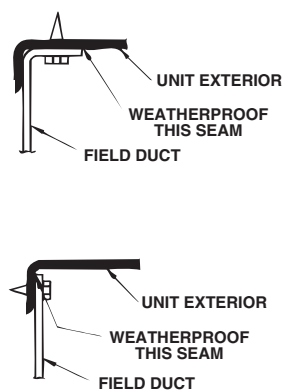

Figure 15. Attaching Horizontal Airflow Ductwork
All conditioned air ductwork should be insulated to minimize heating and cooling duct losses. Use a minimum of two (2) inches of insulation with a vapor barrier. The outside ductwork must be weatherproofed between the unit and the building. See Figure 15.